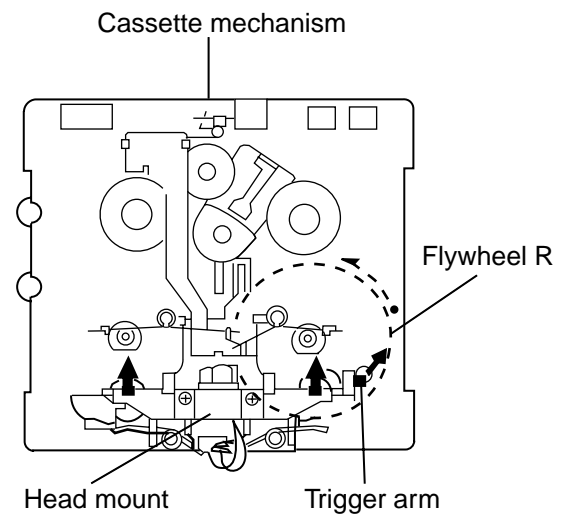

Fig. 1 (Mechanism A side)
■ Removing the Playback, Recording and Eraser Heads (See Fig.1~3)
1. While shifting the trigger arms seen on the right side of the head mount in the arrow direction, turn the flywheel R in counterclockwise direction until the head mount has gone out with a click (See Fig. 1).